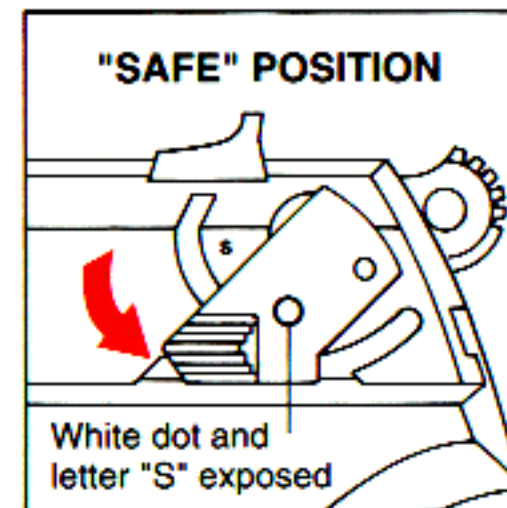

FIGURE 1
The pistol can and should be loaded and unloaded with the safety engaged in its "safe" position (lever fully down, white dot and the letter "S" exposed). **The safety should be in its "safe" position at all times except when the user is deliberately positioned to fire at a selected target.** See Figures 1 and 2, below, which illustrate the two positions of the safety.
2. Move either the right- or left-hand safety lever fully downward to its "safe" position so that the letter "S" and the white dot are fully exposed. (See Figures 1 and 2 on page 5).
4. For the 9mm P89 and P94 pistols, place ten (10) or fewer 9mm x 19 Parabellum cartridges into the magazine from the top.
The trigger is inoperable when the safety is fully engaged in its “safe” position (lever fully down, white dot and letter “S” exposed; see Figure 1 on page 5).
7. If the pistol is not to be fired immediately, the safety should remain in its “safe” position (see Figure 1, p. 5).
1. The muzzle of the pistol must be pointing in a safe direction at all times, and fingers should be outside of the trigger guard. Put the safety in its "safe" position (see Figure 1 on page 5) by rotating the safety fully downward until the letter "S" is fully exposed and the white dot shows. The safety can be engaged whether the pistol is cocked or not.